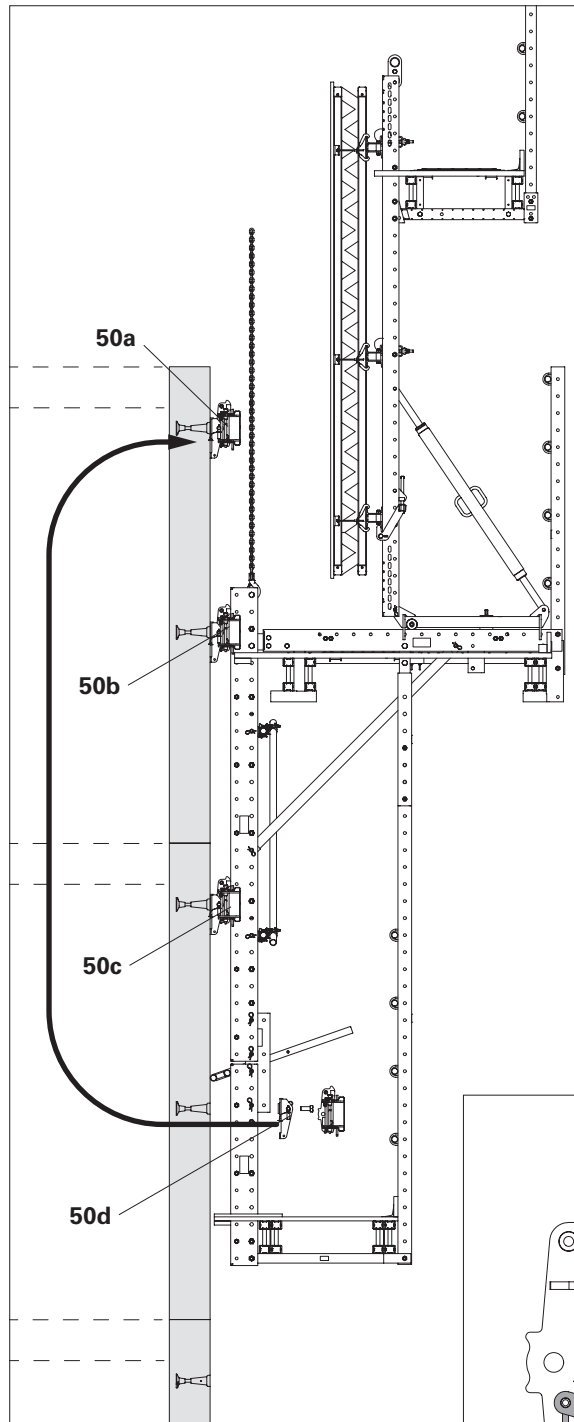

Fig. D7.02
1. Slowly lift the climbing unit into the next climbing shoes (50b) with the crane until the climbing pawls (50.1) of the climbing shoes (50b) audibly engage with the earmarked spacers (3). (Fig. D7.02 + D7.02a)